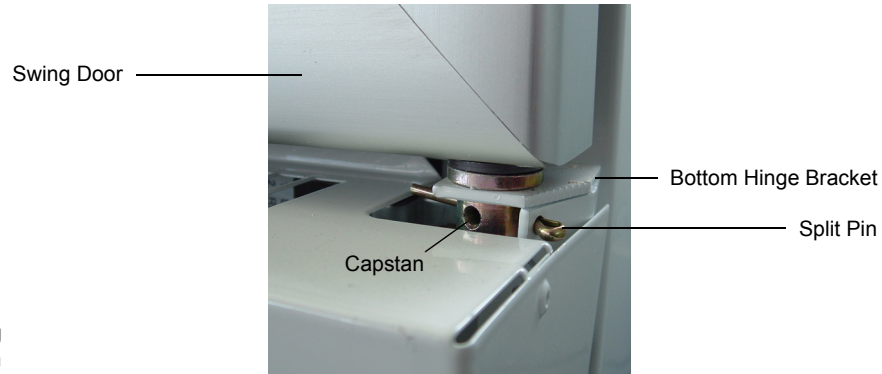

Figure 7: Swing door tension
3. Slowly release tension on the door capstan, by turning the capstan with a $\text{\O}2.5\text{mm}$ steel rod, and removing the split pin from the bottom hinge bracket (see Figure 7 on page 38).
Closing Tension The swing doors have internal torsion bars, pretensioned at the factory, which enable the doors to self-close. If necessary, the door closing tension can be further adjusted by rotating the capstan mounted in the bottom hinge bracket (see Figure 7 below).